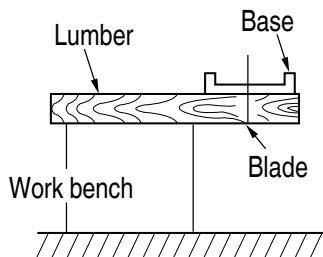

Fig. 11
14. Prepare a work bench (**Fig. 11**)